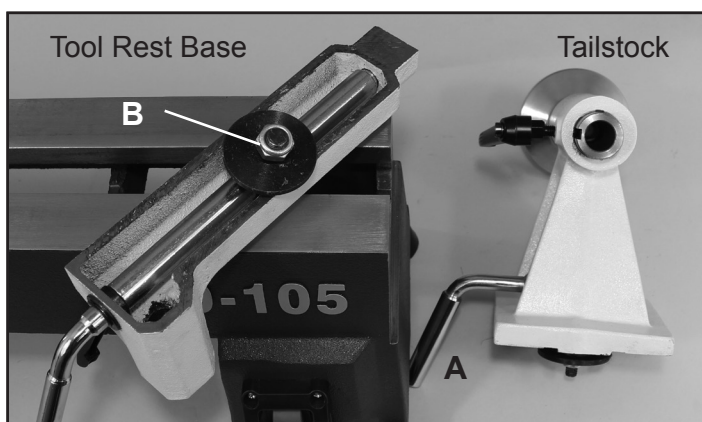

FIG. 2
1. Remove the tailstock assembly from the lathe bed. Release the locking lever handle (A) at the rear of the tailstock, and slide the tailstock assembly off of the end of the lathe bed. FIG. 2
NOTE: To adjust the clamping action of the tool rest base, or the tailstock, adjust the locking nut - turn it clockwise to tighten, and counterclockwise to loosen. See FIG. 2 and instructions on page 9.
To adjust the clamping action of the tailstock on the bed, adjust the lower locking nut. See the instructions listed on page 9, FIG. 2.